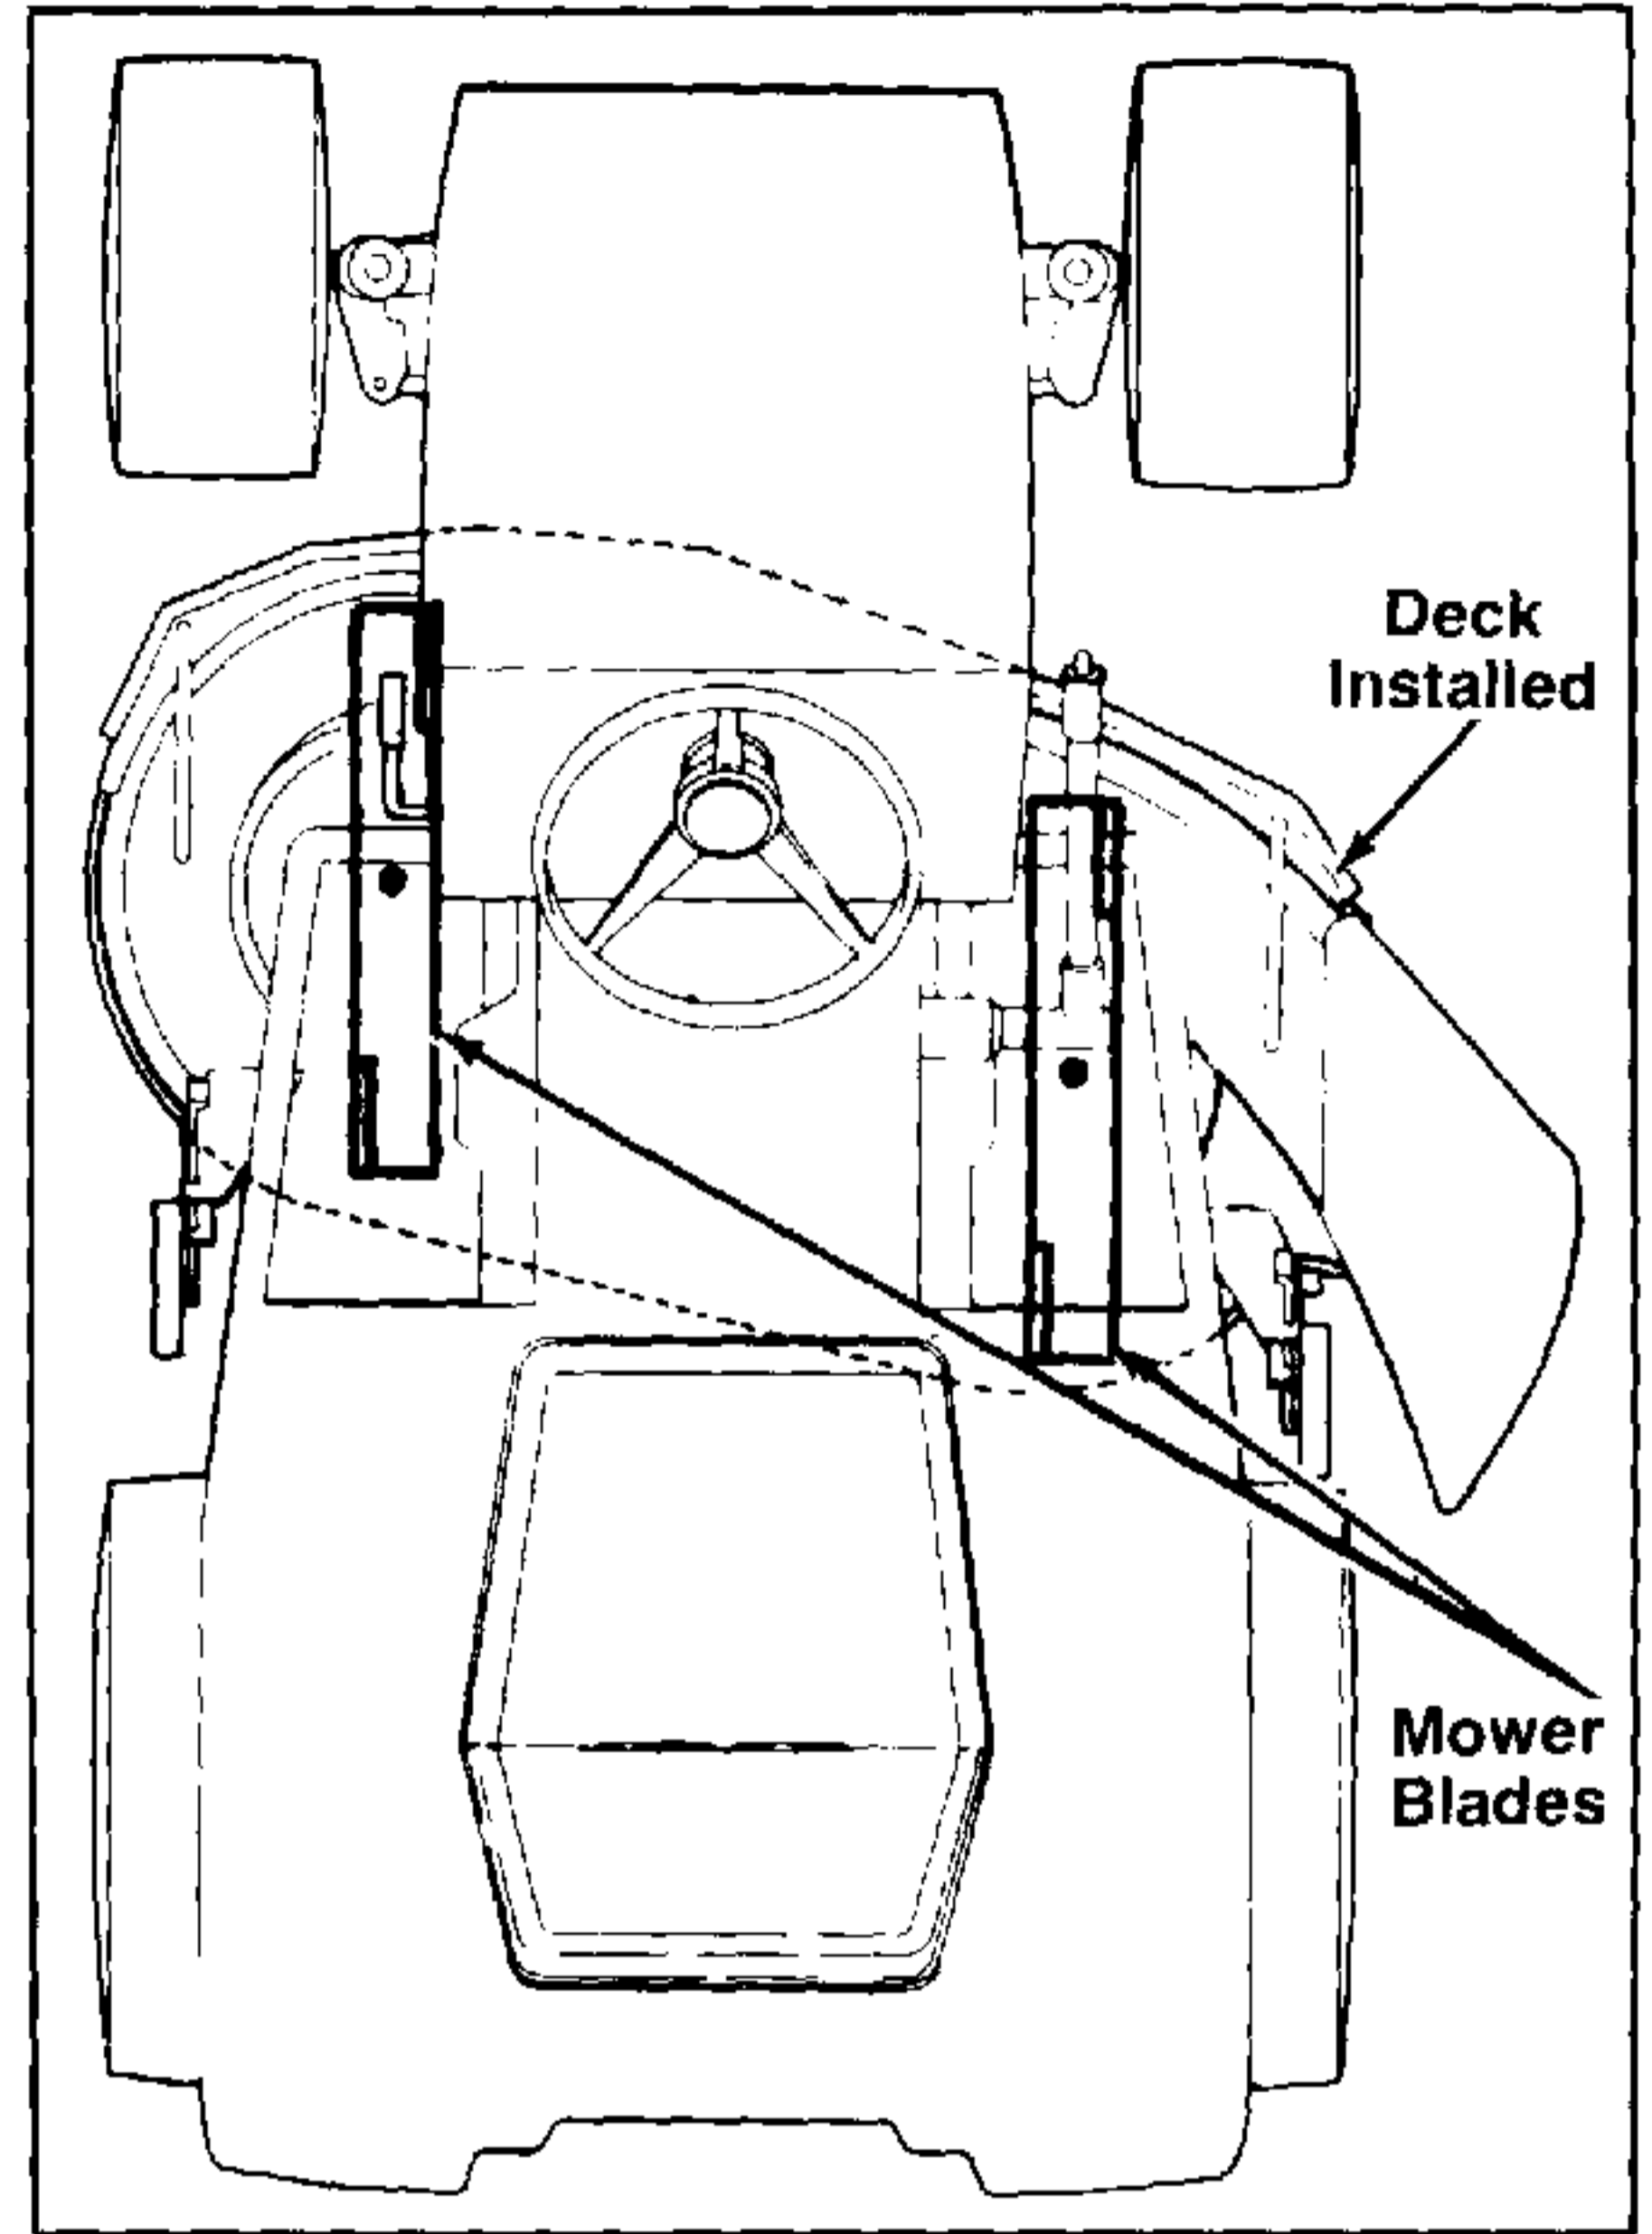

FIGURE 12.
4. Position the mower blades so that the ends of each blade face the front and rear of the tractor. Refer to figure 12.